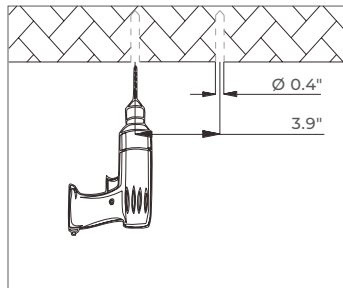

FIGURE 3
- A) Drill holes on mounting surface. (Figure 3)